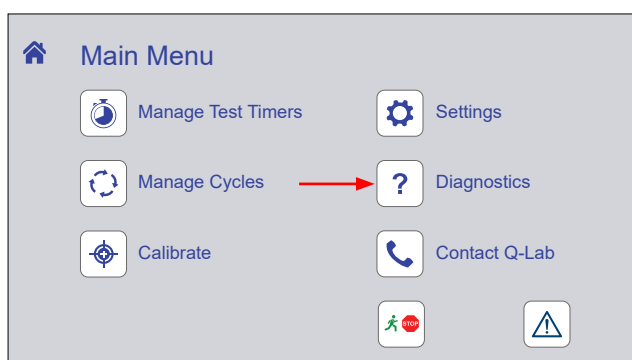
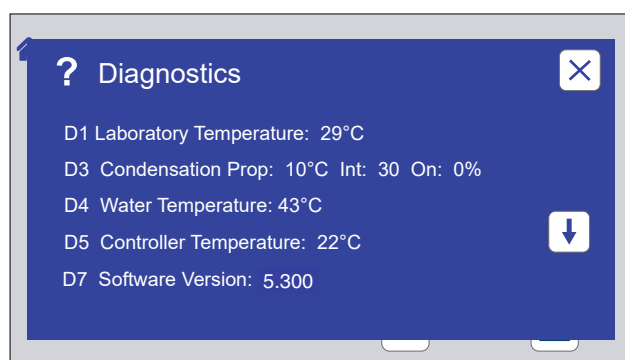

Figure 8.9a: Touch the Diagnostics icon on the Main Menu screen to display diagnostic information.
Figure 8.9b: The Diagnostics screen displays current machine operating conditions. Touch the Close icon to return to the Main Menu.
- On the Main Menu screen, touch the Diagnostics icon (Figure 8.9a) to display the Diagnostics screen (Figure 8.9b).